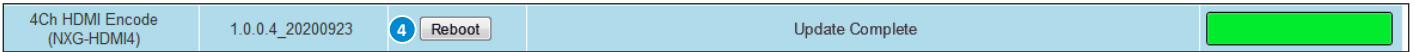

Figure 5d - Completed Update
- 3 Update the Firmware version by clicking the **Update** button. The update status and progress will show under the “**Status**” columns. Below are the firmware updates as they appear while in-progress (Figure 5c) and upon completion (Figure 5d). After the update is complete, the user **MUST** reboot the module to finish applying the updates.
- 4 Once the update progress is complete, the user **MUST** click the **Reboot** button (as shown on Figure 5d) in order to apply and finalize the update.